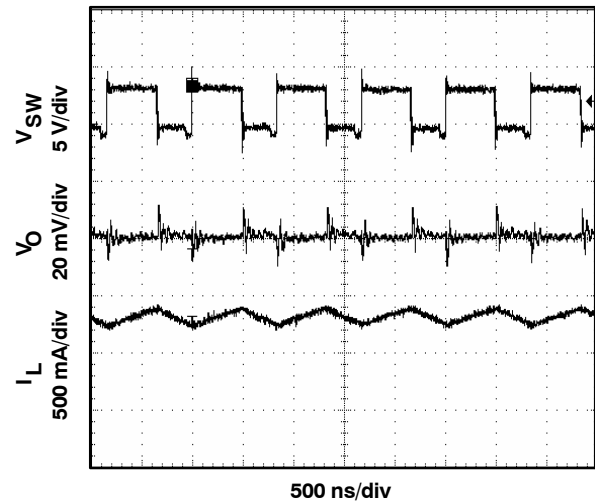
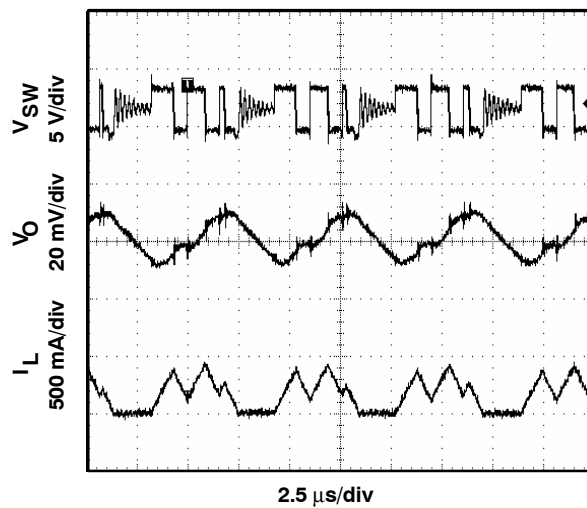
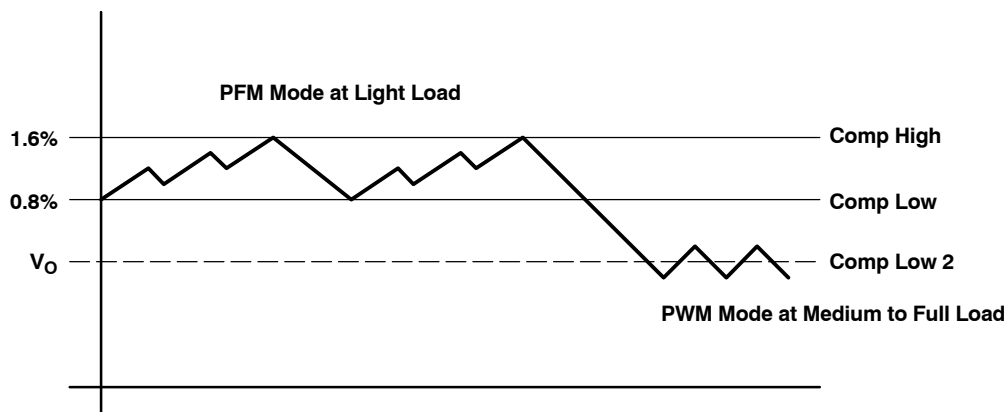

Figure 11
Figure 12
Figure 14. Power Save Mode Thresholds and Dynamic Voltage Positioning
During power save mode the output voltage is monitored with the comparator by the threshold's comp low and comp high. As the output voltage falls below the comp low threshold set to typically 0.8% above the nominal output voltage, the P-channel switch turns on. The P-channel switch remains on until the transition current (1) is reached. Then the N-channel switch turns on completing the first cycle. The converter continues to switch with its normal duty cycle determined by the input and output voltage but with half the nominal switching frequency of 625-kHz typ. Thus the output voltage rises and as soon as the output voltage reaches the comp high threshold of 1.6%, the converter stops switching. Depending on the load current, the converter switches for a longer or shorter period of time in order to deliver the energy to the output. If the load current increases and the output voltage can not be maintained with the transition current, equation (1), the converter enters PWM again. See Figure 11 and Figure 12 under the typical graphs section and Figure 14 for power save mode operation. Among other techniques this advanced power save mode method allows high efficiency over the entire load current range and a small output ripple of typically 1% of the nominal output voltage.
Setting the power save mode thresholds to typically 0.8% and 1.6% above the nominal output voltage at light load current results in a dynamic voltage positioning achieving lower absolute voltage drops during heavy load transient changes. This allows the converter to operate with small output capacitors like 22 μ F and still having a low absolute voltage drop during heavy load transient. Refer to Figure 14 as well for detailed operation of the power save mode.
As described in the power save mode operation sections before and as detailed in Figure 14 the output voltage is typically 0.8% (i.e., 1% on average) above the nominal output voltage at light load currents, as the device is in power save mode. This gives additional headroom for the voltage drop during a load transient from light load to full load. In the other direction during a load transient from full load to light load the voltage overshoot is also minimized by turning on the N-Channel rectifier switch to pull the output voltage actively down.